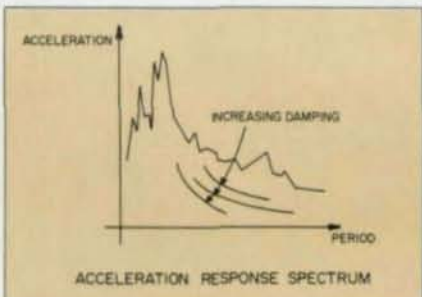

Figure 3.
**Energy Dissipation:** Large relative displacements can be controlled if substantial additional damping is introduced into the structure at the isolation level. This is shown schematically in Figure 3 and 4. Also shown is the smoothing effect of increased damping.